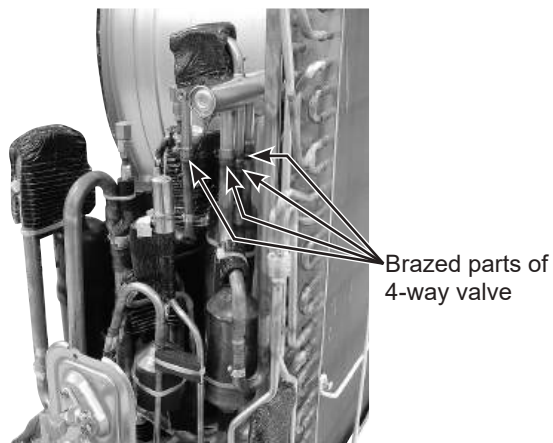

Figure 2
- (2) Remove the inverter assembly. (Refer to section 2.)
- (3) Remove the screws fixing the reactor.
- (4) Remove the reactor.
- (5) Remove the soundproof felt.
- (6) Recover gas from the refrigerant circuit.
- (7) Detach the brazed part of the suction and the discharge pipe connected with compressor. (Photo 16)
- (8) Remove the compressor nuts.
- (9) Remove the compressor.
- (10) Detach the brazed parts of 4-way valve and pipe.
**NOTE:** If the red labels have been removed during the operation, put them back in the original position after the operation. Red labels indicate the use of flammable refrigerants. (Figure 2)